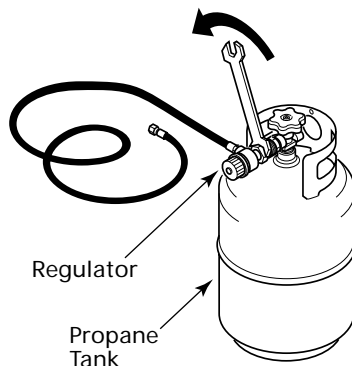

Figure 3 - Connecting Heater to Propane Tank
2. Wrench tighten the fuel connector nut into the propane tank valve (See Figure 3). Turn fuel connector nut counter-clockwise to tighten. Threads are left-handed.